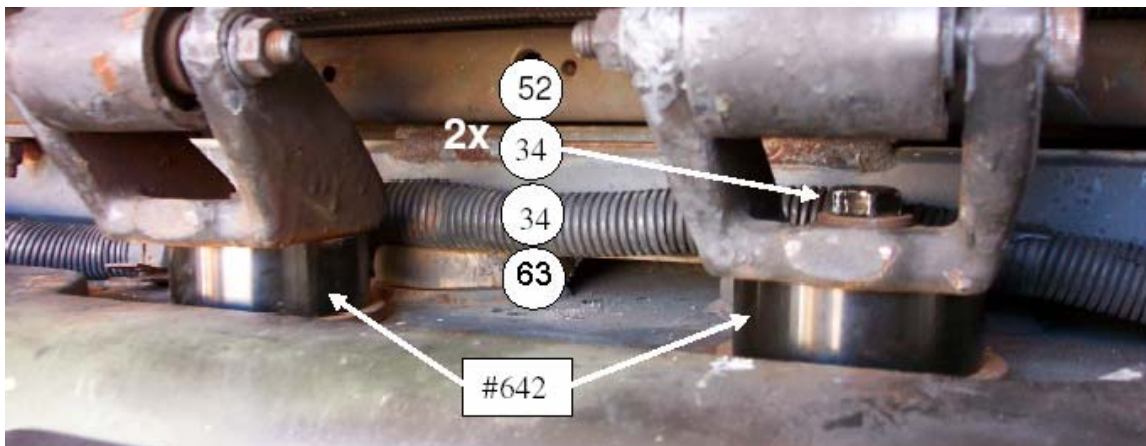

Figure 7-5. Hood Spacer.
Parts (see Figure 7-5):
Fasteners: (see Figure 7-5)
- 1) Remove the bolt that attaches each hood hinge to the front cross member. Using an appropriate lifting device, lift the hood and insert one spacer, P/N 113512-1, under each hinge. Re-attach using 1/2" x 3-1/2" bolts, 1/2" flat washers, and 1/2" locknuts. Torque to 122 Nm (90 lb-ft) (See Figure 7-5).